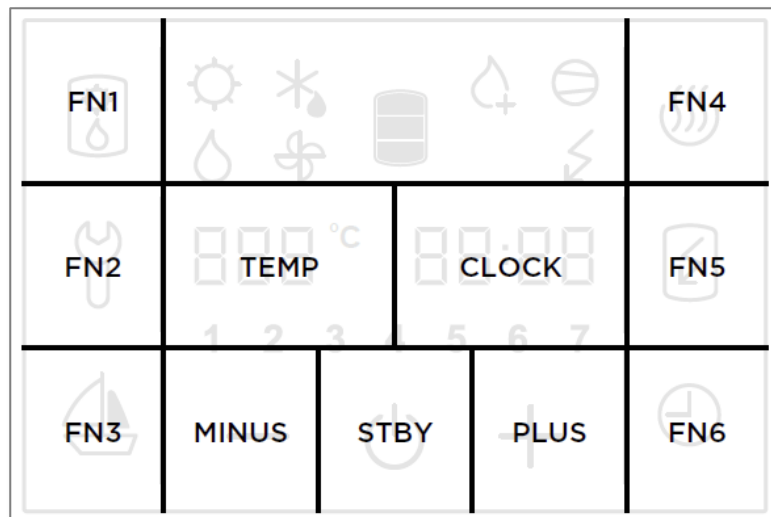

Figure 17: Fields display
- By pressing the right number (Field CLOCK in Figure 17) you proceed to the next parameter.